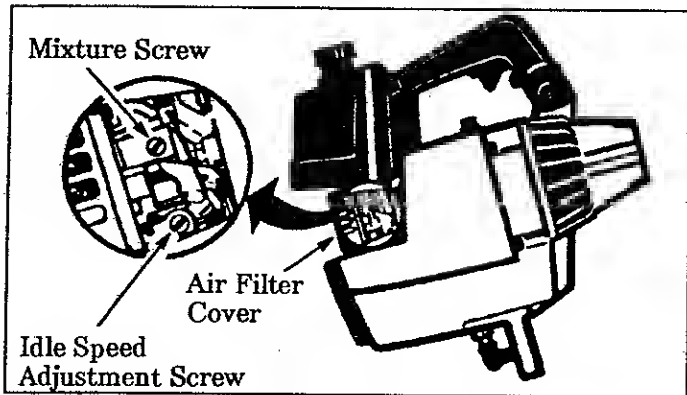

Figure 26
- a. Turn the Mixture Screw (Figure 26) clockwise until it stops. *Do not turn the screw until it is tight as damage to the needle seat can occur.*
- b. If the engine does not accelerate smoothly, turn the Mixture Screw (Figure 26) counterclockwise ↶ a small amount (no more than the width of the slot in the adjusting screw).
3. Turn Mixture Screw (Figure 26) very slowly clockwise  until engine speed is reduced.